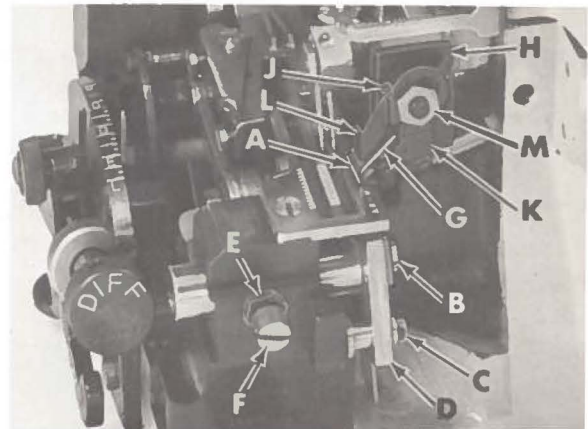

Fig. 15
Cutting edge of knife (A, Fig. 15) must be even and parallel with top surface of throat plate. Examine sewn sample for specified seam width and appearance.
With upper knife (G, Fig. 15) at lowest position of travel and while holding upper knife firmly against lower knife, adjust knife holder (H) left to right, to position front tip of upper knife cutting edge $1/64$ - $1/32$ inch (.4 - .8mm) below cutting edge of lower knife, then tighten screw (J).